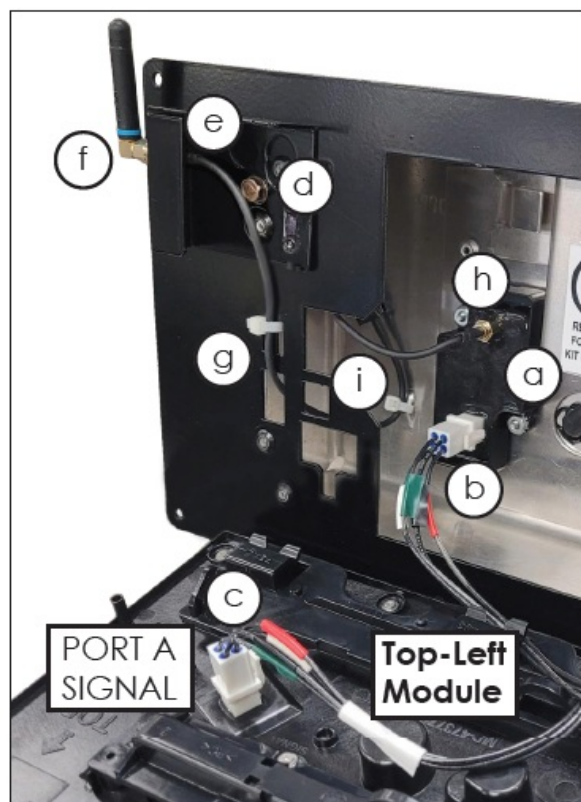

Figure 2: Radio Receiver & Bracket Install
3. Install the radio receiver as described below and shown in Figure 2: